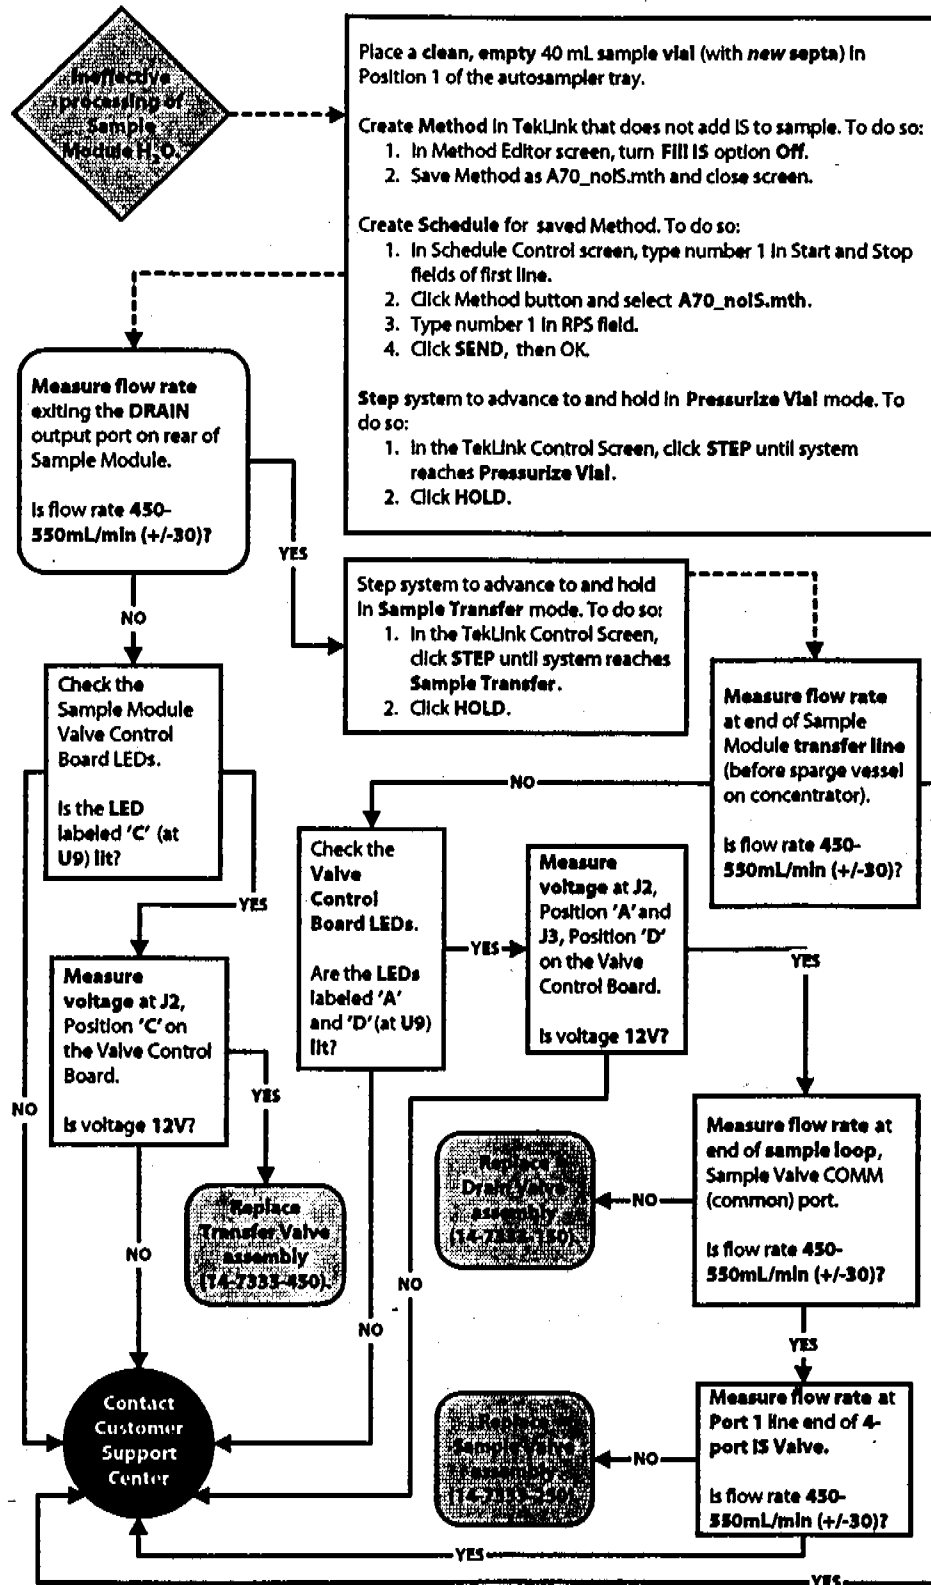

Figure 4.12.1 Sample Module Leak and Gas Flow Troubleshooting Flow Chart
3. Refer to the troubleshooting flow chart (Figure 4.12.1) and the color leak check flow diagrams (Section 5.3) for leak troubleshooting guidelines and details.
3. Refer to the troubleshooting flow chart (Figure 4.12.1) and the color gas flow diagrams (Section 5.4) for gas flow troubleshooting guidelines and details.